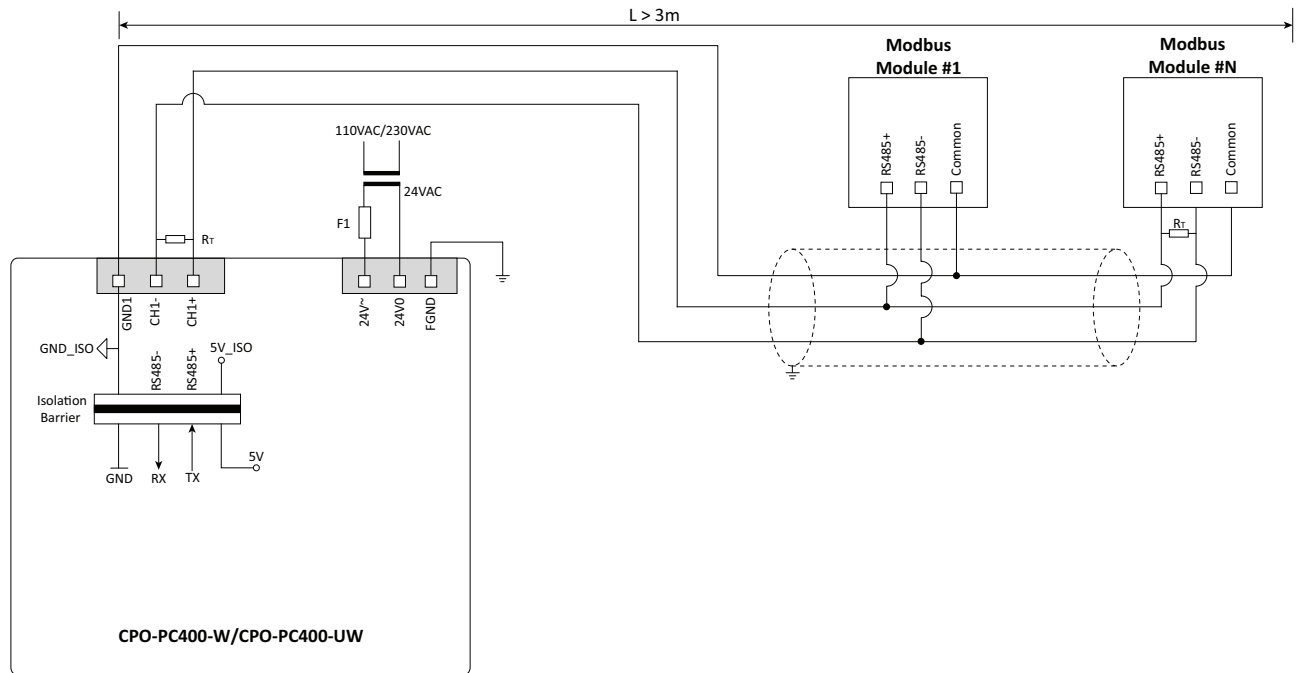

Fig. 20. Connection ($L > 3m$) of RS485 interfaces 1, 2, or 3 (RS485 interface 1 shown) to a Modbus
- If the connected controllers do not have isolated RS485 interfaces and if they share a common ground between the power supply and Earth ground, see the wiring diagram (Fig. 20) provided in Connection to Modbus devices with non-isolated RS485 interfaces. This provides the best electrical noise rejection.